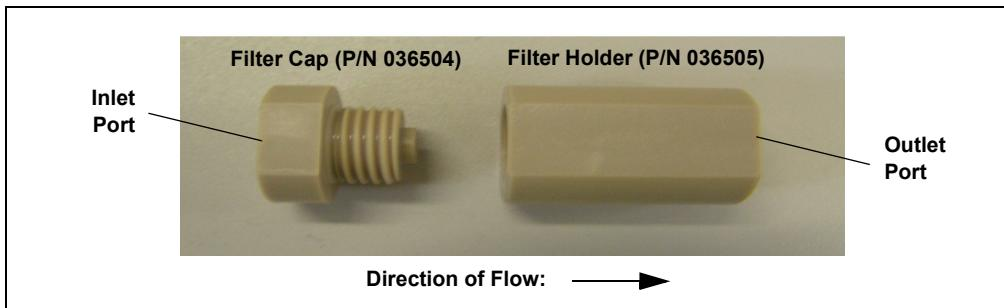

Figure 1. High-Pressure Inline Filter
1. Connect the pump outlet line to the inlet port of the inline filter (see Figure 1).
2. Connect the eluent line in port of the injection valve to the outlet port of the inlet filter (see Figure 1).